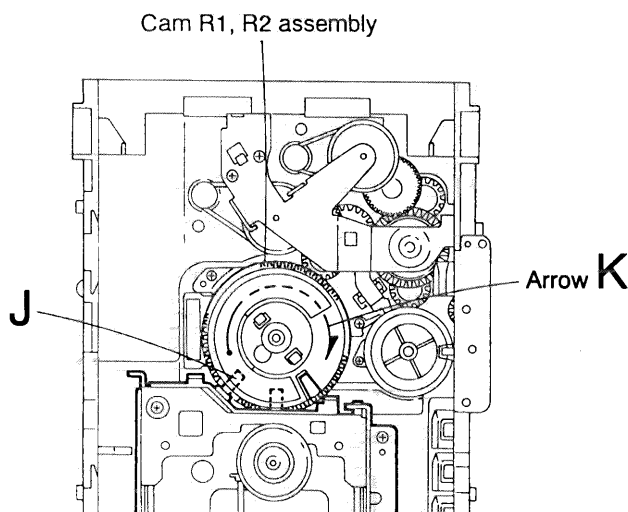

Fig.5-45
■ Removing the CD mechanism (See Figs. 5-45 and 5-46)
1. For dismounting only the CD mechanism without removing the CD mechanism assembly, align the shaft "J" of the CD mechanism assembly to the position shown in Fig. 5-45 while turning the cam R1 and R2 assembly in the arrow direction "K".